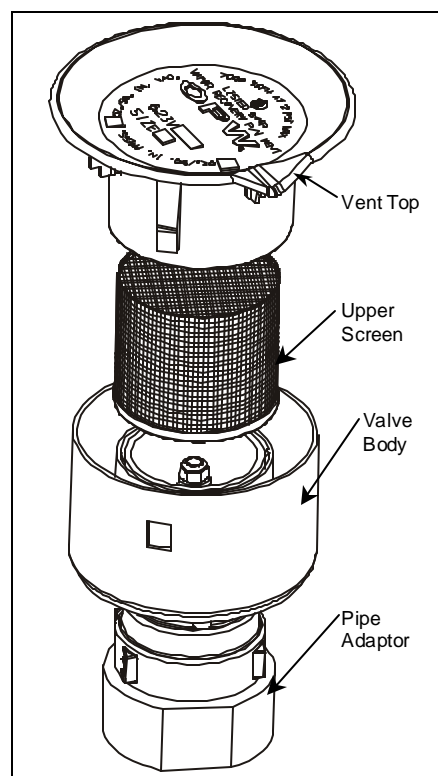

Figure 3
2. Clean or replace filter screen (P/N H14895M) as necessary and reinstall Fig. 3.